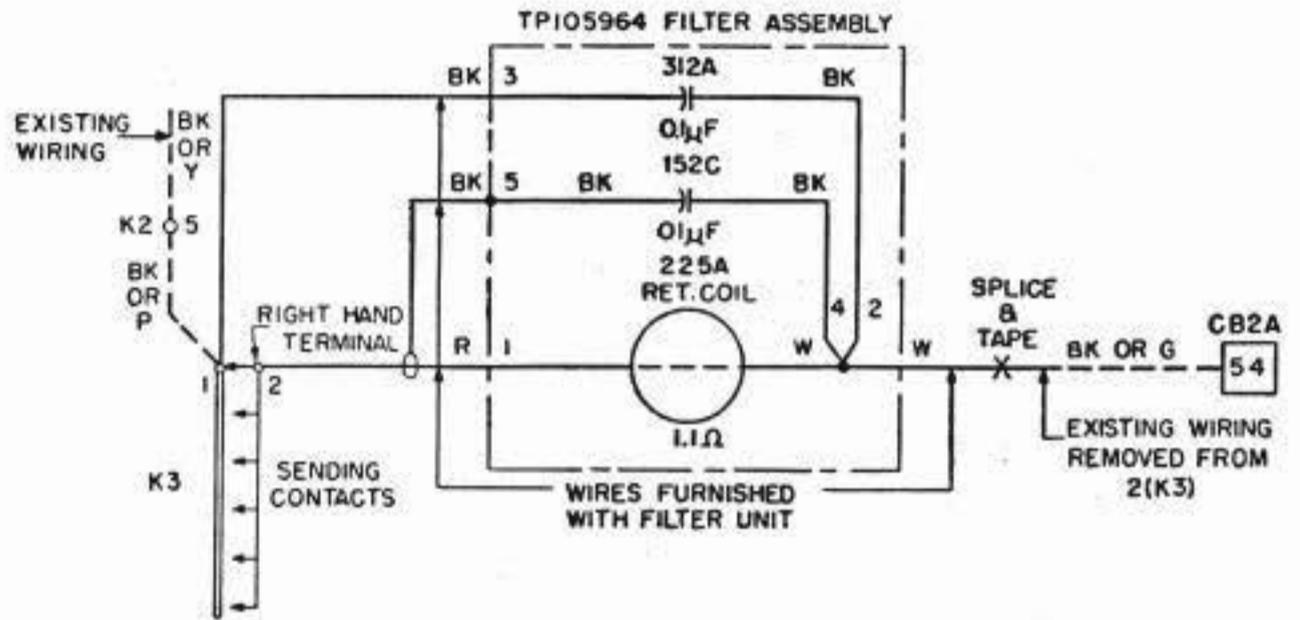

Fig. 1—(With Line-Test Key) 15A, B, and C Keyboards and 15 Type Perforator-Transmitters
2.05 For 15A, B and C Keyboards and 15 Type Perforator-Transmitter refer to Fig. 1 and connect the TP 105964 filter assembly as follows: